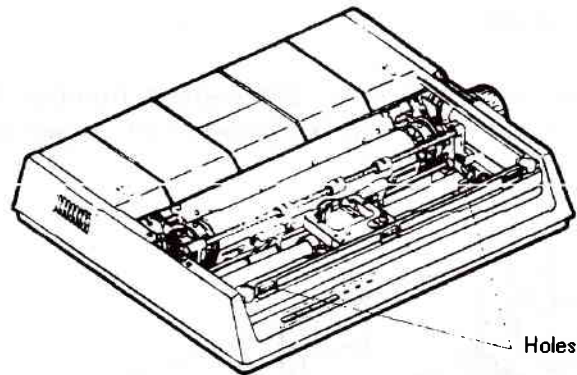

Figure 28, Holes
- a. Insert the three tabs under the front edge of the access cover into the holes on the top front of the printer. (see figure 28).